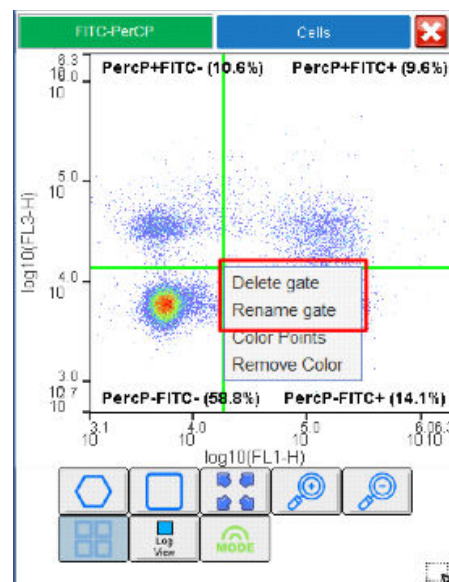

Figure 38. Deleting or renaming gates.
2. Right-click and select the desired option (Fig. 38).